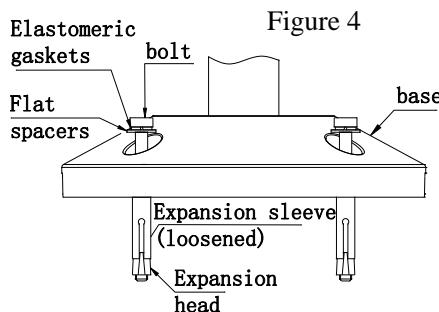

Figure 4
1.4 Install the expansion bolt on the base mounting hole, put it into the bottom hole, and the expansion sleeve is in a loose state. Then use an Allen wrench (or a cross-shaped screwdriver) to fix the lamp smoothly on the cement foundation, the expansion sleeve is in an expanded state, and the lamp installation is completed, Figure 4, Figure 5.